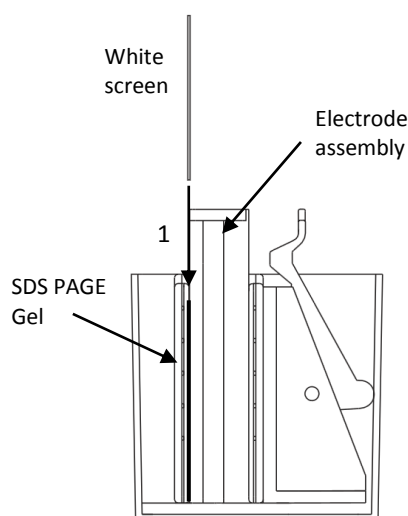

Figure 2. Insertion procedure for the 8x10cm or 10x10cm gel white screen into the XCell SureLock® Mini-Cell tank (image courtesy of Life Technologies).
Life Technologies XCell SureLock® Mini-Cell: Setup the gel and tank as per manufacturer's instructions. Then simply slide the appropriately sized white screen (8x10 or 10x10cm gel) in-between the gel cassette and the electrode assembly (1) prior to loading the samples (figure 2).